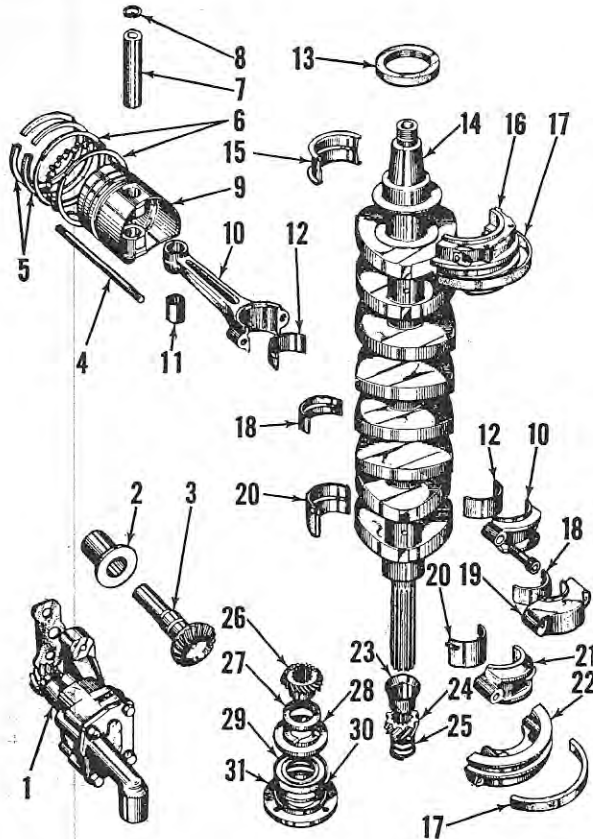
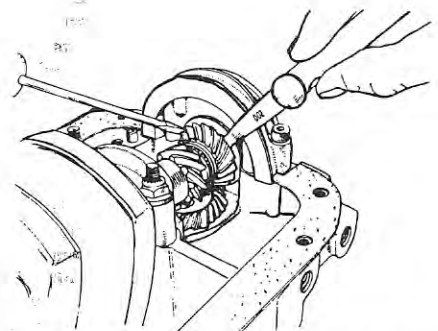

Fig. H20—Exploded view of crankshaft, bearings, pistons, connecting rods and associated parts.
Fig. H22—To measure the crankshaft timing gear clearance, pry gear away from lower bearing and use a feeler gage as shown.
The main bearing studs pass through the crankcase webs and thread into the cylinder block. Secure the power head in a horizontal position with crankshaft up and remove the main bearing stud nuts, connecting rod cap screws and caps; and the lower main bearing seal retainer (31—Fig. H20). The upper main bearing cap is also secured with two socket head cap screws which must be removed.
Crankshaft thrust is downward only because of vertical operating position of shaft and pressure of timing gears. End thrust is controlled by the thrust bearing (28—Fig. H20) and the selective thickness spacer washer (27). The spacer washer (27) contains an internal notch which fits over a small peg in crankshaft timing gear (26), thus limiting wear to the mating surfaces of spacer (27) and thrust bearing (28). The spacer (27) is available in thicknesses of 0.0940 to 0.1315 in increments of 0.0015. The recommended clearance is 0.002-0.0035 when measured with a feeler gage as shown in Fig. H22.
Using a torque wrench, tighten the main bearing stud nuts to a torque of 200 inch-pounds in the following order: 1-5-2-4-3. (The lower bearing being designated as No. 1). Tighten the connecting rod cap screws to a torque of 300 inch-pounds, and the socket head cap screws in upper main bearing and drive end seal cap (22—Fig. H20) to a torque of 85 inch-pounds. Tighten the alternator stator retaining screws to a torque of 25 inch-pounds, the flywheel retaining nut to a torque of 175 foot-pounds, and the lifting bracket cap screw (if removed) to a torque of 250 inch-pounds.
Tower shaft bushings (29—Fig. H13 and 2—Fig. H20) are a press fit in cylinder block and crankcase, and are flanged as shown. Diametral clearance of tower shaft in the two bushings should be at least 0.001. Renew the shaft and/or bushings if clearance exceeds 0.003. Bushing removal will be facilitated by the use of the special Homelite tower shaft bushing tool (Part No. T-14571). When installing the bushing in crankcase, align the oil metering hole in bushing with oil passage in casting. Make sure bushing is not cocked. Install the upper (camshaft end) bushing with the oil metering groove toward outer end of block away from the valves. Each bushing should be pressed into its bore until the flange contacts the casting.
NOTE: One method of holding the tower shaft from turning when making the adjustment is to delay the installation of camshaft drive gear and tower shaft adjusting screw until after crankshaft is reinstalled. Place a soft wedge between the gear on tower shaft (3—Fig. H20) and oil pump drive gear (24) to position the tower shaft.
To remove the piston pin, remove the Truarc retaining rings (8—Fig. H20) at each end of piston pin and heat piston assembly in boiling water for at least 5 minutes, then drive out the pin using Homelite pin punch (T-145479) or equivalent, and a soft faced hammer.